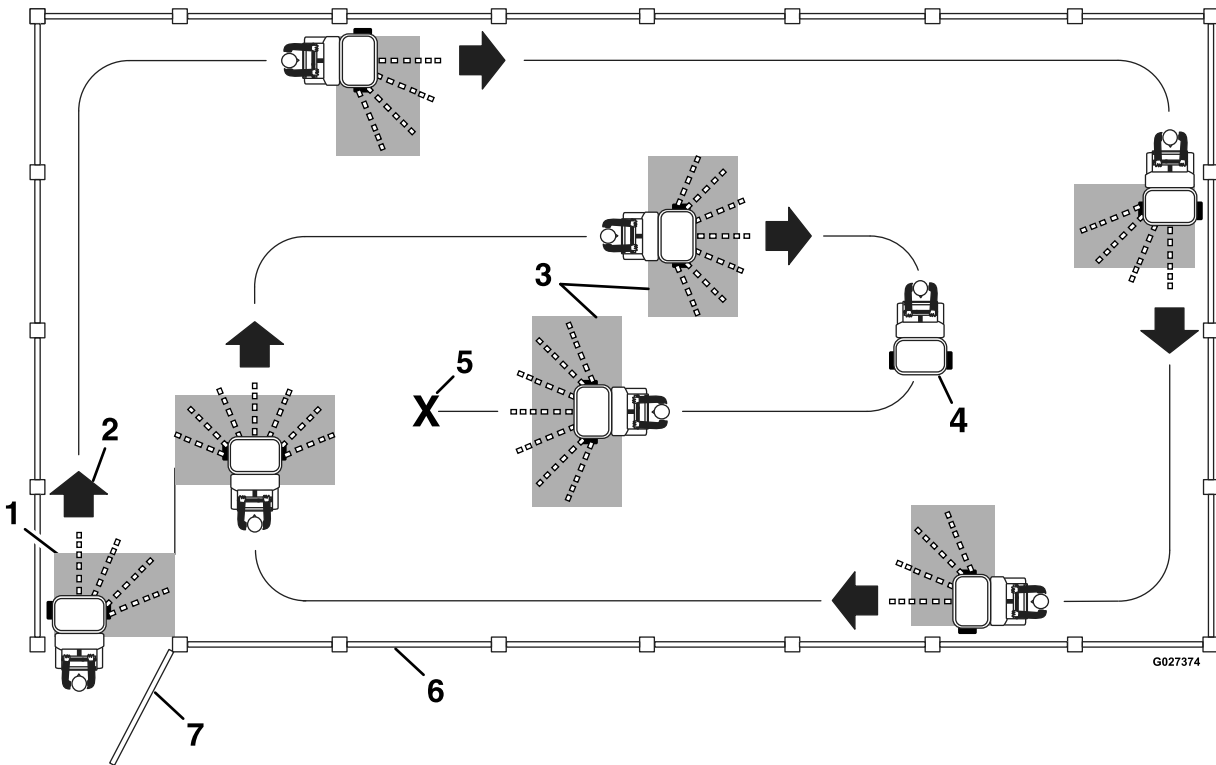

Figure 41
- To ensure uniform application, broadcast the material in an overlapping pattern as shown in Figure 41.